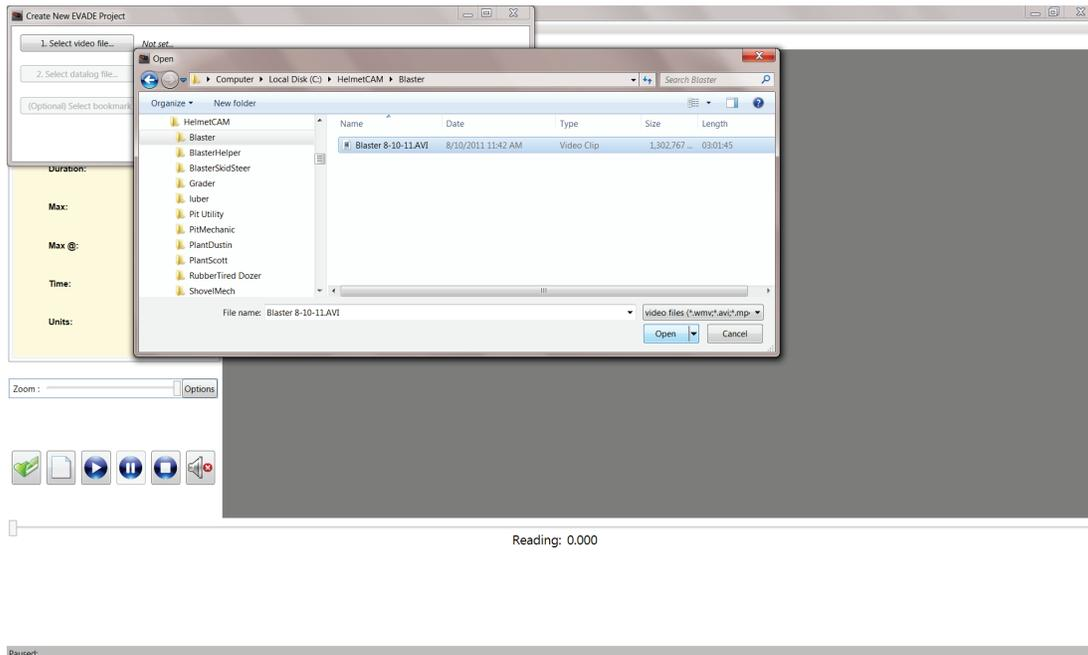
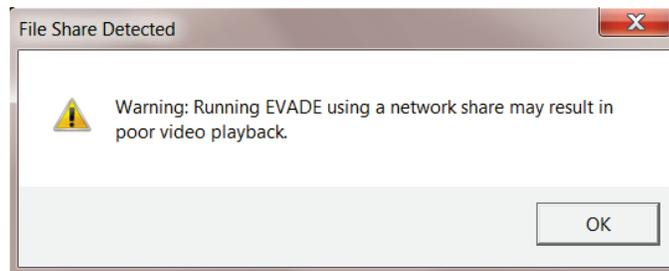

Figure 24. The New Project command dialog box showing drive directories.
Figure 25. The warning message notifying the user that EVADE video playback may be unsatisfactory when running data files from a network drive.
2. Click the **Select video file...**, the first highlighted selection button, to launch an **Open** dialog box (Figure 24). This dialog box allows selection of the video files in *avi*, *mp4*, or *wmv* format. The location of these video files can be selected by scrolling through the file listing on the left side of the dialog box and selecting the desired directory. The data can be located in a directory on any drive: for example, C:\ drive, CD rom drive, network drive, etc. It should be noted that poor video playback may occur in the EVADE software when the data is located on a network drive. EVADE will provide a notification of this circumstance (Figure 25); click **OK** to clear the message. Once the video file is selected, click **Open** to proceed. The next step **Select datalog file** will be highlighted. Selecting **Cancel** terminates the **Select video file** process and returns the user to the beginning of the **Create New EVADE Project** procedure.